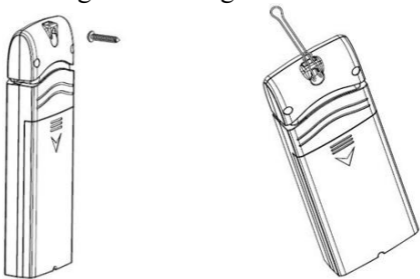

Figure 6: Indoor sensor mounting
- Use a screw or nail to affix the remote sensor to the wall, as shown on the left side of figure 6, or
- Hang the remote sensor using a string, as shown in right side of figure 6.